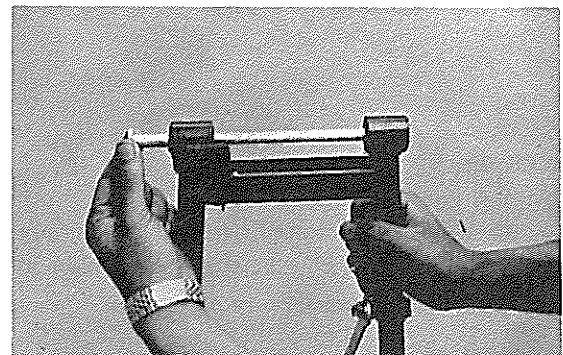

Fig. 4-8-4
- 2) Insert the bushing as indicated in Fig. 4-8-4, and check it for play. If the play is excessive, replace the bushing.